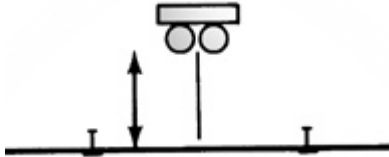

FIG. 4 - Allow a minimum of 6" space between the ceilings if recessed lights are to be fixed to false ceiling.
- Determine the exact height at which the suspended ceiling will be installed. Allow a minimum of 75 mm to 100 mm clearance between the existing ceiling and the new false ceiling for installation of the ceiling panels. Additional clearance will be required if light fittings are using recessed in the false ceiling (Fig.4). The ceiling should however be not lower than 2600 mm.